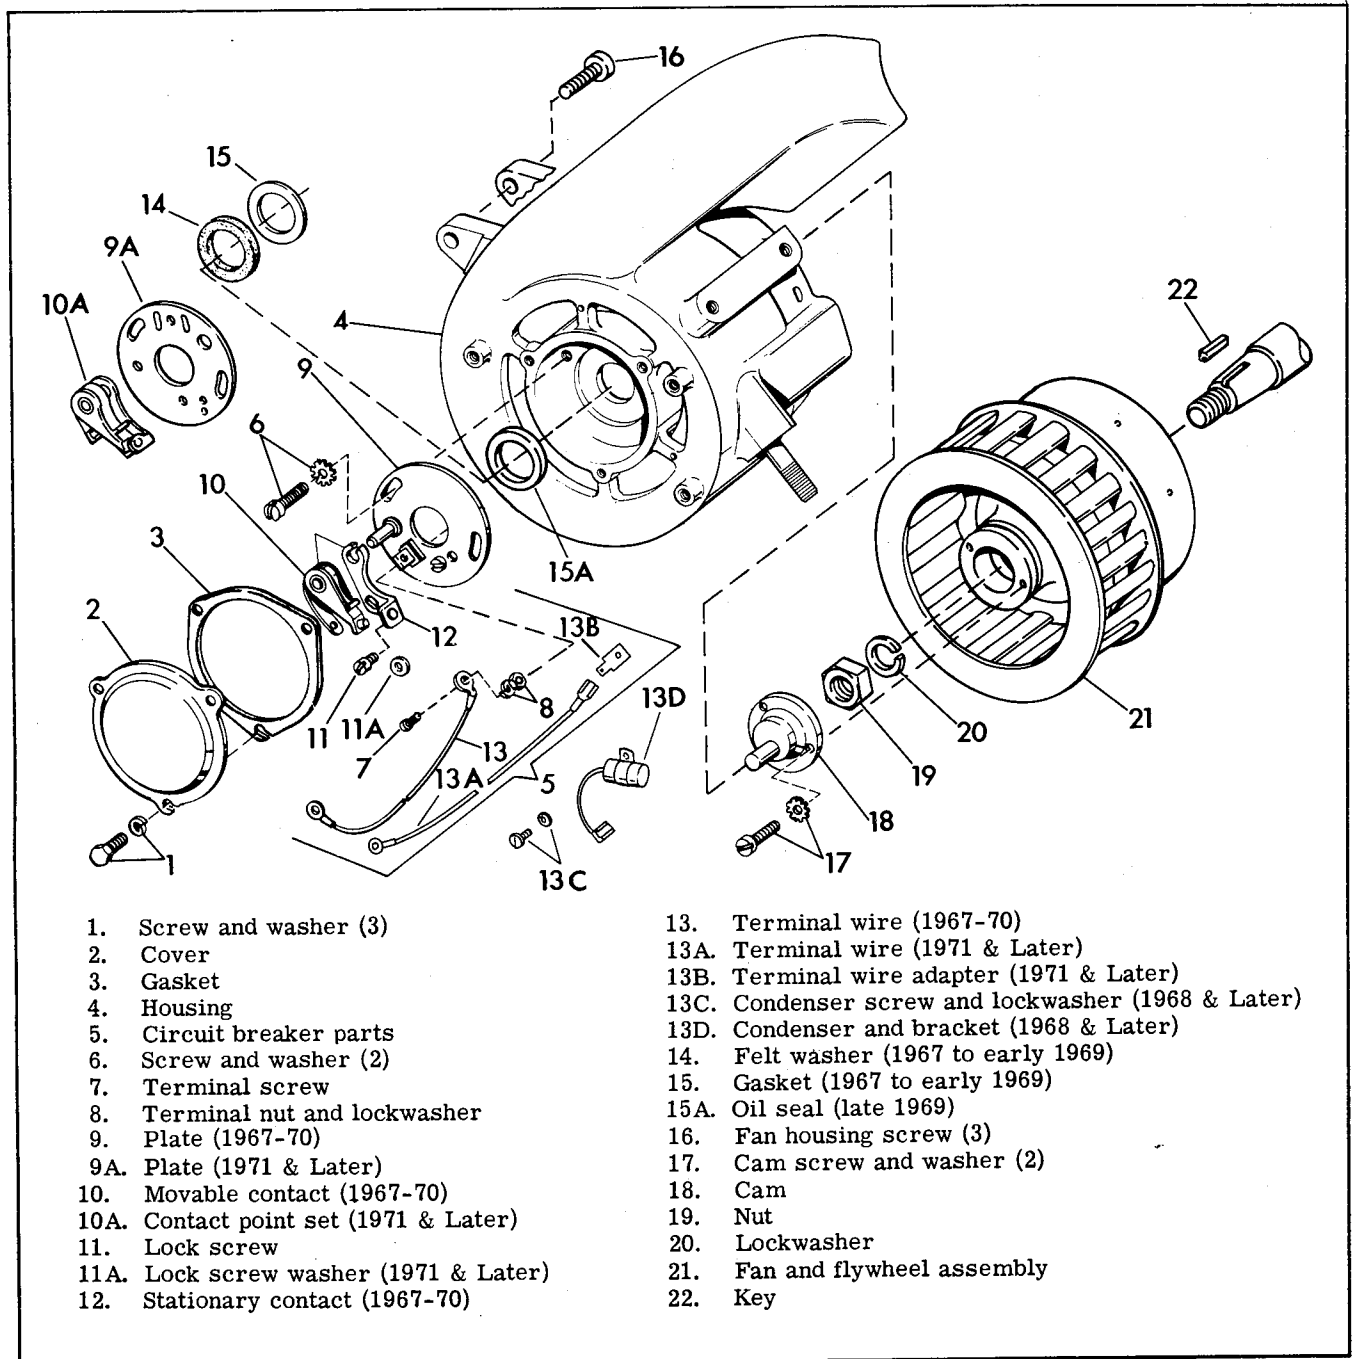

Figure 5F-12A. Circuit Breaker and Fan (1967 & Later D, 1969-1972 DC Model) - Exploded View
2. Forward Timing: Turn engine crankshaft clockwise in forward operating direction until forward mark (25° BTC) appears in center of hole in blower housing as shown in Fig. 5F-11C. This is the point at which circuit breaker contacts should just start to open.